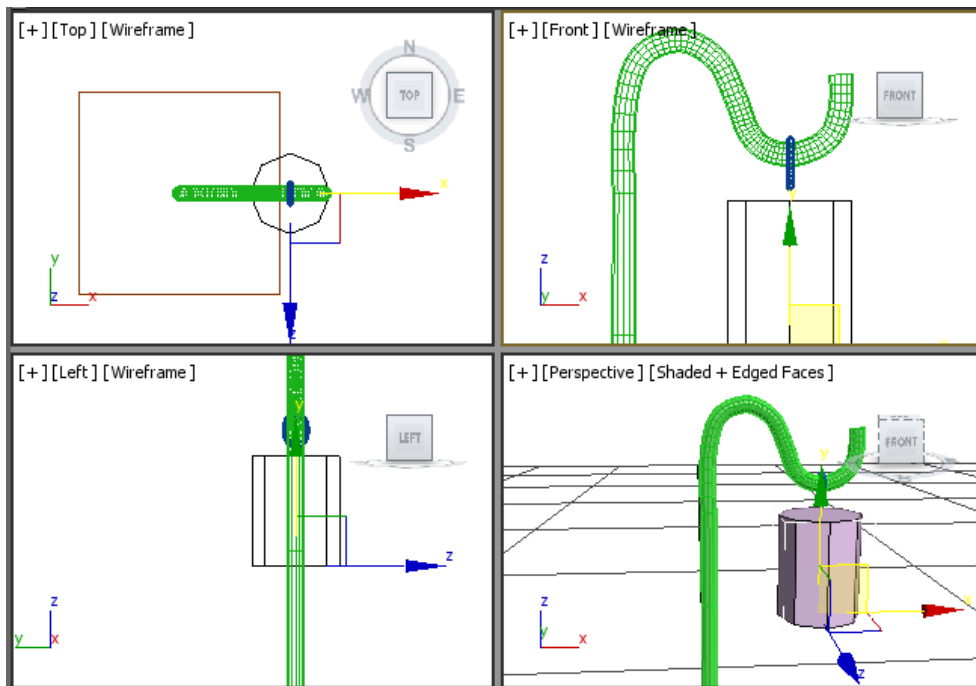

Figure 5-30 The lamp holder aligned in all viewports
4. Set the value **1.2** in the **Amount** spinner of the **Parameters** rollout and press the ENTER key; *lamp holder* is extruded. Next, align it in all viewports, as shown in Figure 5-30.